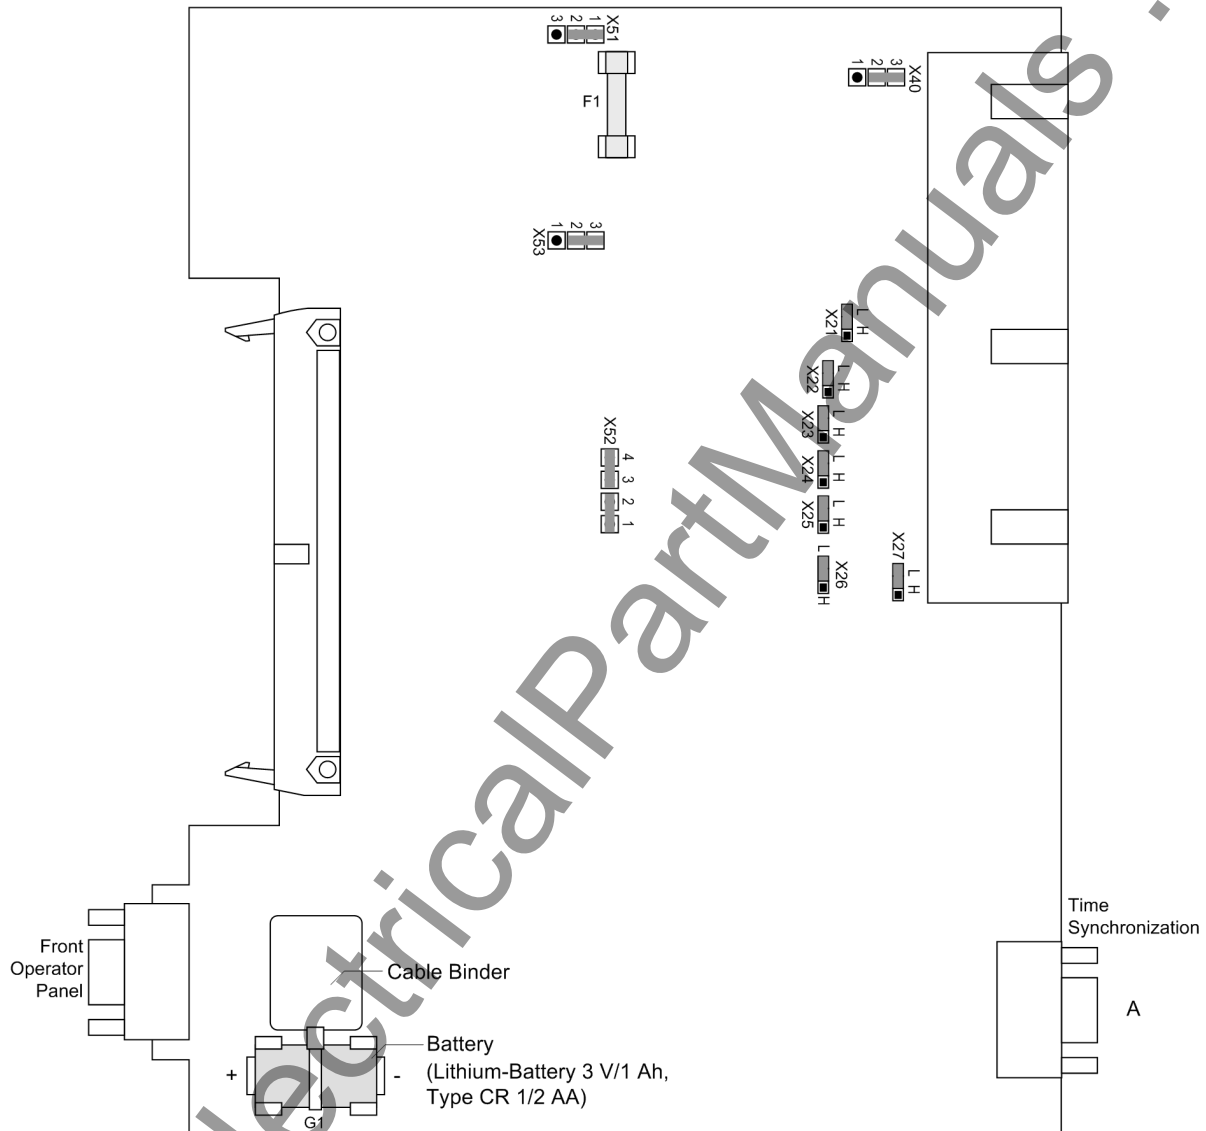

Figure 3-3 Processor printed circuit board B-CPU for devices up to release.../DD with jumpers settings required for the board configuration
Spare parts can be the buffer battery that provides for storage of the data in the battery-buffered RAM when the supply voltage fails, and the miniature fuse of the internal power supply. Their spatial position is shown in the figures of the processor boards (Figure 3-3 and 3-4). The ratings of the fuse are printed on the board next the fuse itself. When exchanging the battery or the fuse, please observe the information in the /1/, Chapter "Maintenance" and "Corrective Action / Repairs".
- Check the jumpers in accordance with Figures 3-3 to 3-6 and the following information, and as the case may be change or remove them.